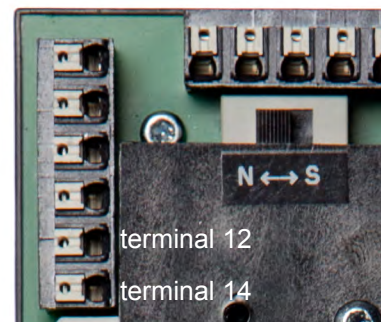
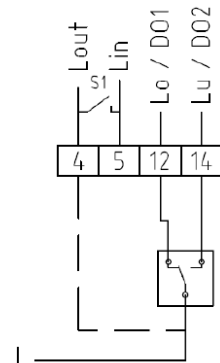

Fig. 14: N↔S Switch
Fig. 15: Wiring diagram 3-point signal
When initialisation has been successfully completed, only the green LED is lit. For error signals see table "Initialisation error codes", Fig. 14 page 21.
3. Set the N↔S switch (Fig. 14) to "S" and wire as shown in Fig. 15 (the positioner must remain connected to the power supply throughout).